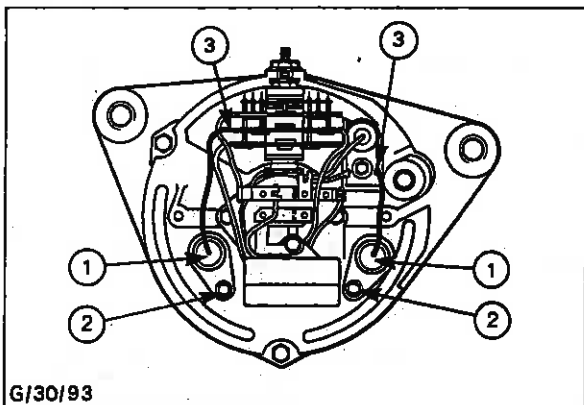

Fig. 50 - Replacing Suppression Capacitors
6. Replace the two suppression capacitors (1) and secure with screws (2). Connect their leads (3) - see Fig. 50.